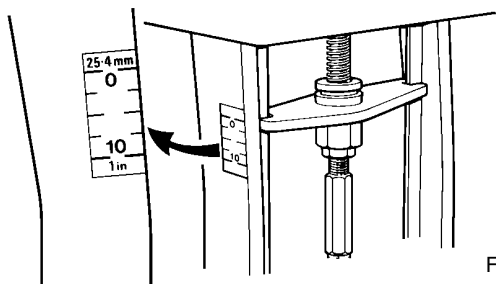

Fig.7
9. Whilst checking actuator travel over full stroke of valve, run actuator to fully retracted position. Select self-adhesive indication scale to match valve stroke, from set of four scales provided. Fix scale along outside edge of actuator mounting bracket, in position where it will be most clearly visible, lining up top edge of anti-rotation plate on actuator spindle with position '0' on scale (Fig.7).